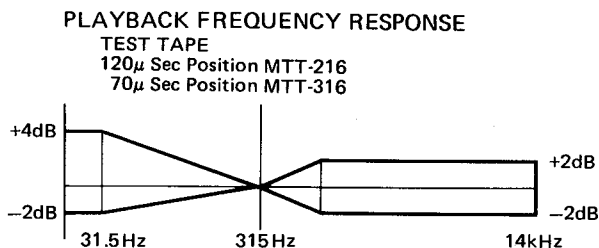

Fig. 6
- Play back the test tape (MTT-216) and note the frequency response obtained on the VTVM. Confirm that frequency response is within the range as shown in Fig. 6.
- d) Play back the test tape (MTT-316) and note the frequency response obtained on the VTVM. Confirm that frequency response is within the range as shown in Fig. 6.